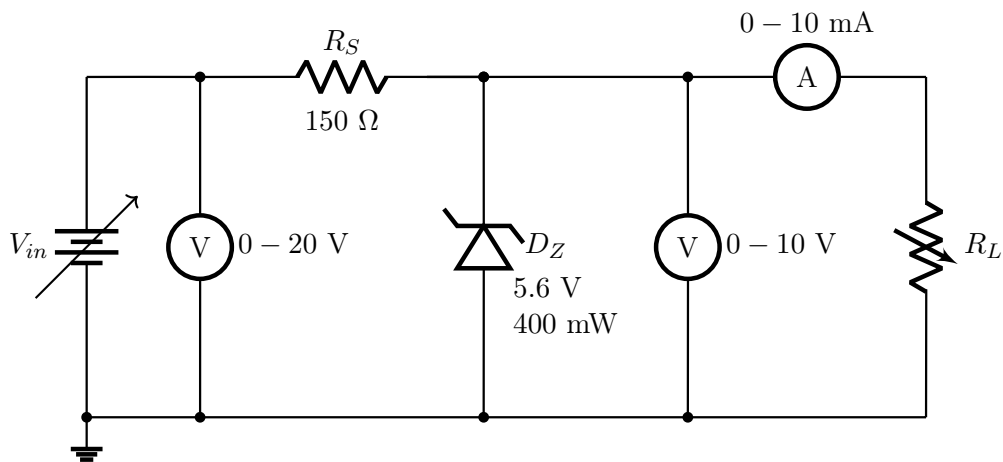

Figure 1.1: Zener diode voltage regulator circuit
1. Connect the circuit as shown in Figure 1.1 with R_L set to give $I_L = I_{L(\max)} = 5 \text{ mA}$ (i.e., $R_L = V_Z / I_{L(\max)} \approx 1.12 \text{ k}\Omega$).